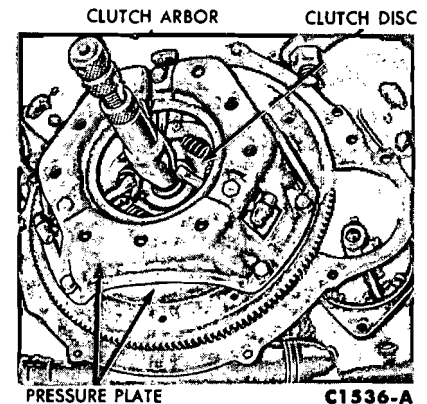

FIG. 4—Installing Clutch Disc
2. Align the clutch disc with a clutch arbor as shown in Fig. 4 and torque the six pressure plate cover attaching bolts evenly to specifications. Then remove the tool.